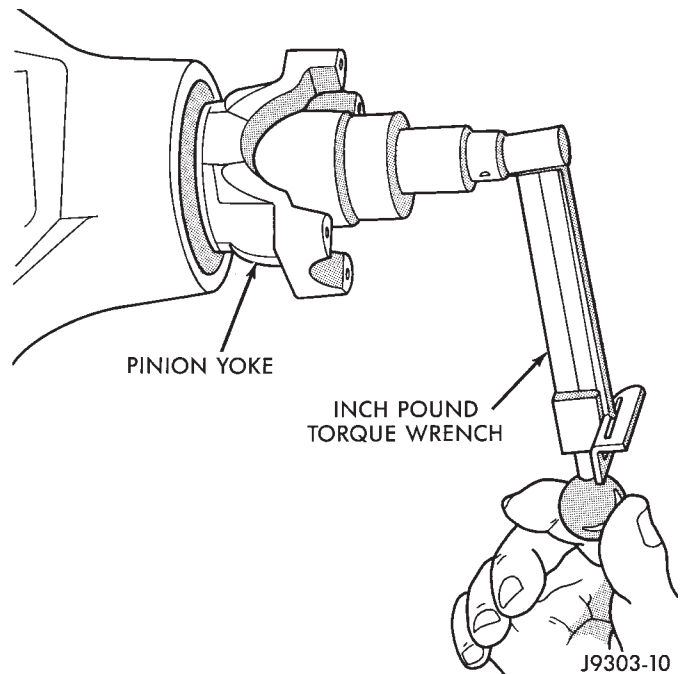

Fig. 32 Check Pinion Gear Torque
(9) Check bearing preload torque with an inch pound torque wrench (Fig. 32). The torque necessary to rotate the pinion gear should be;